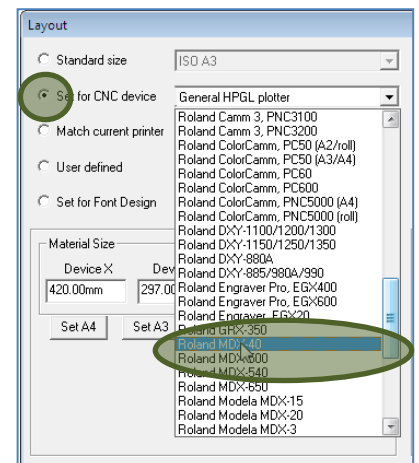

Figure 5
- Select “Set for CNC Device” (Figure 5).
- Select “Roland MDX-40” from the list of devices (Figure 5)